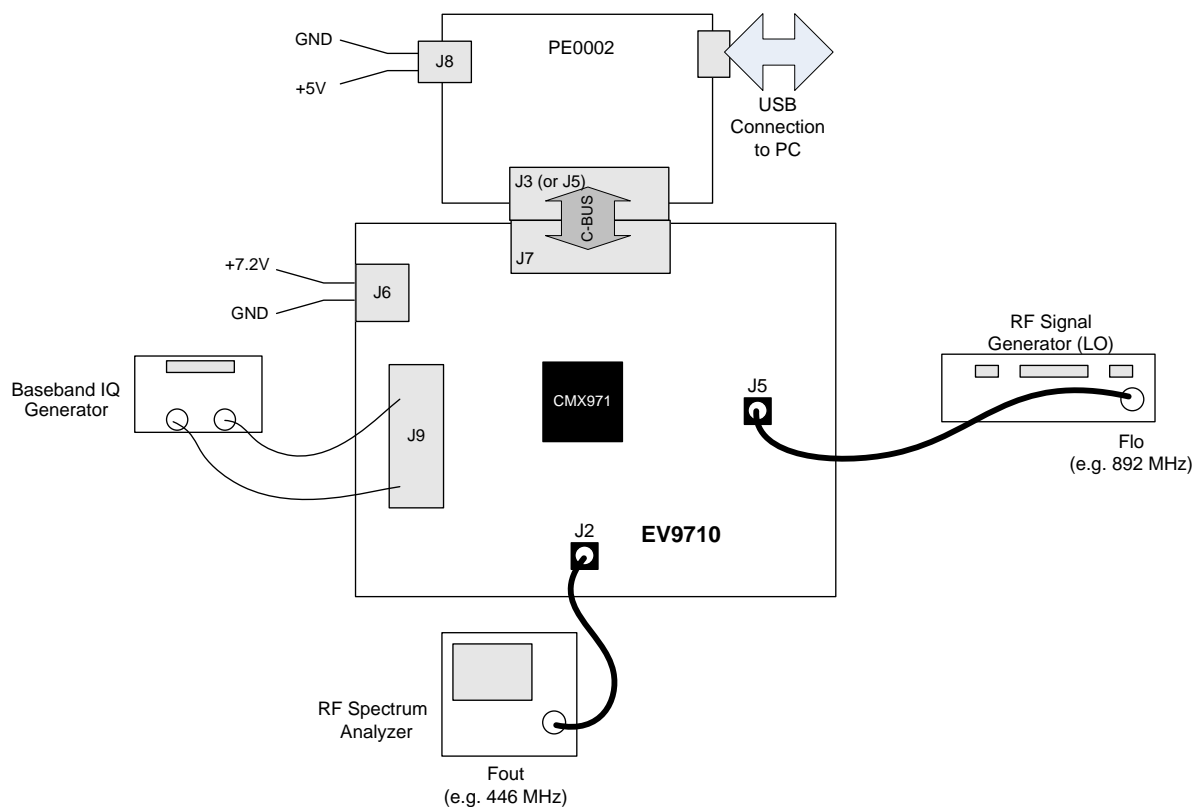

Figure 2 Typical Connections for EV9710
An example of typical connections to the EV9710 is shown in Figure 2. Perform the following steps in sequence:
1. Connect test leads as shown in Figure 2, except the power to J6.
2. Connect a controller to C-BUS interface J7 (PE0002 can be used – see Figure 2. Note: J3 or J5 can be used on PE0002, but ensure the correct C-BUS port is selected when programming data).